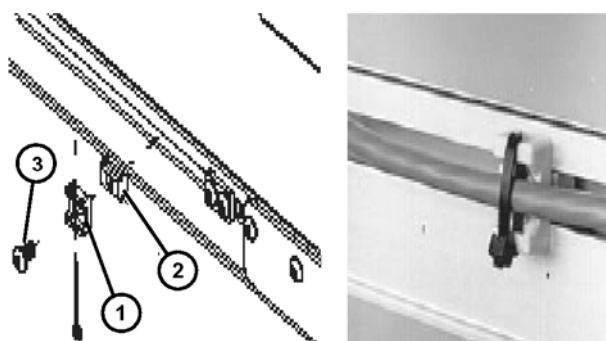

Figure 15
2. To route cable over a previously mounted component or to anchor the cable, use the mounting cable ties (**Figure 15, item 1**) and single drop-in t-bars (**Figure 15, item 2**). Secure with screws (**Figure 15, item 3**)